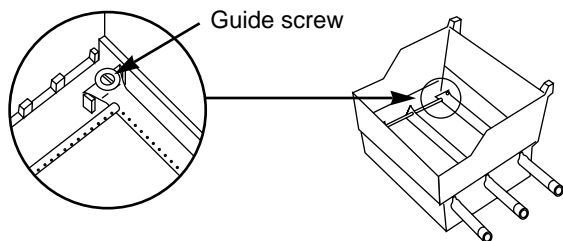

Figure 9
- f) Slide the burner assembly out from under the guide screw and washer in the corners of the cooking box. Figure 9.